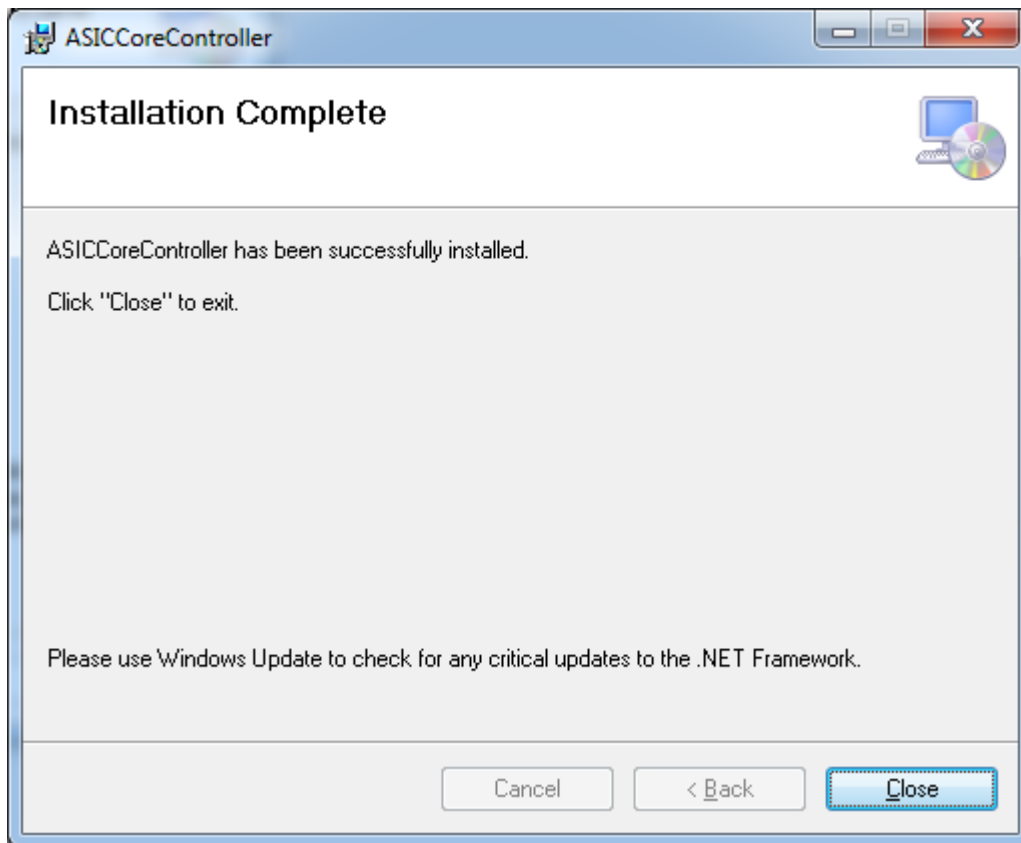
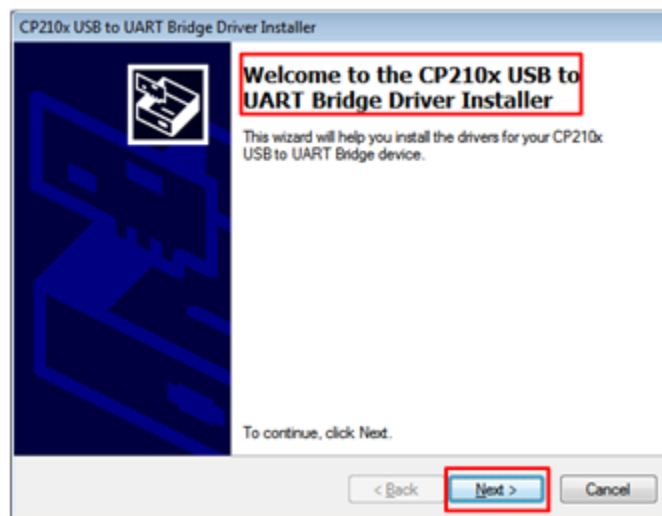
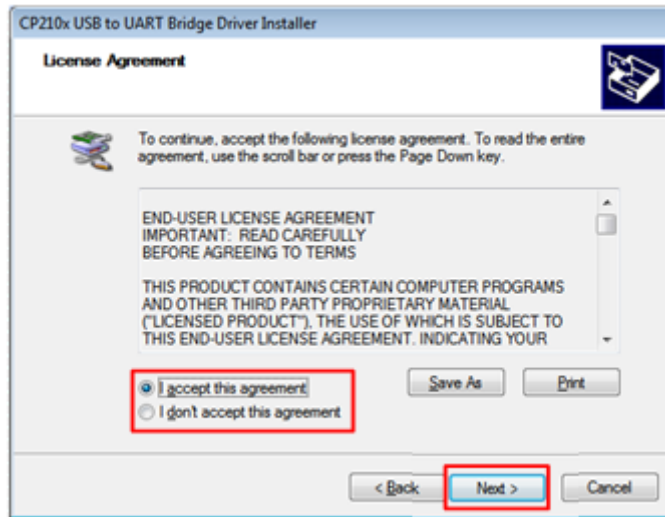

Figure 4-5 Pop-up window for software installation complete
Figure 4-6 Pop-up window for USB driver installation
Figure 4-7 Agreement selection window
5. After the installation, two windows will pop up, one is the window for installation complete, and other one is window for USB driver, as shown in Figure 4-5 and Figure 4-6 respectively.
6. Click the button "Close" in Figure 4-5 to complete the module software installation, and then click the button "Next" in Figure 4-6 for USB driver installation, at which time, an agreement selection window as shown in Figure 4-7 will pop up.